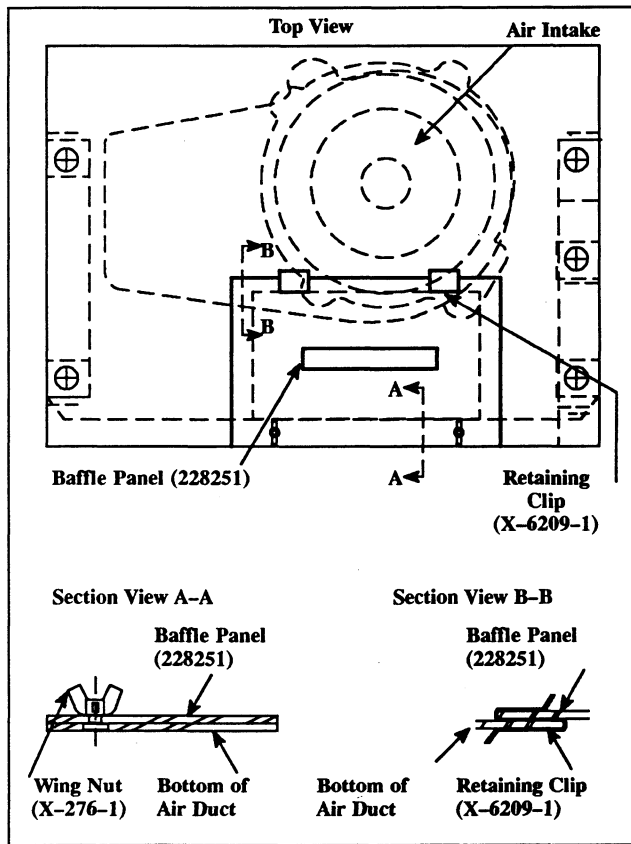

Figure 8-2. Installing Baffle Panel
Step 4. Slide the two retaining clips (X-6209-1) into position at rear edge of rectangular opening in air duct. See Figure 8-2 for placement of retaining clips.
Step 5. Position baffle panel (228251) over rectangular opening in air duct. Secure rear edge of baffle panel with retaining clips previously installed. Align hole in base of baffle panel with weld screw on bottom of air duct. Secure with wing nuts (X-276-1). See Figure 8-2. The baffle panel can be removed to service the engine air cleaner.